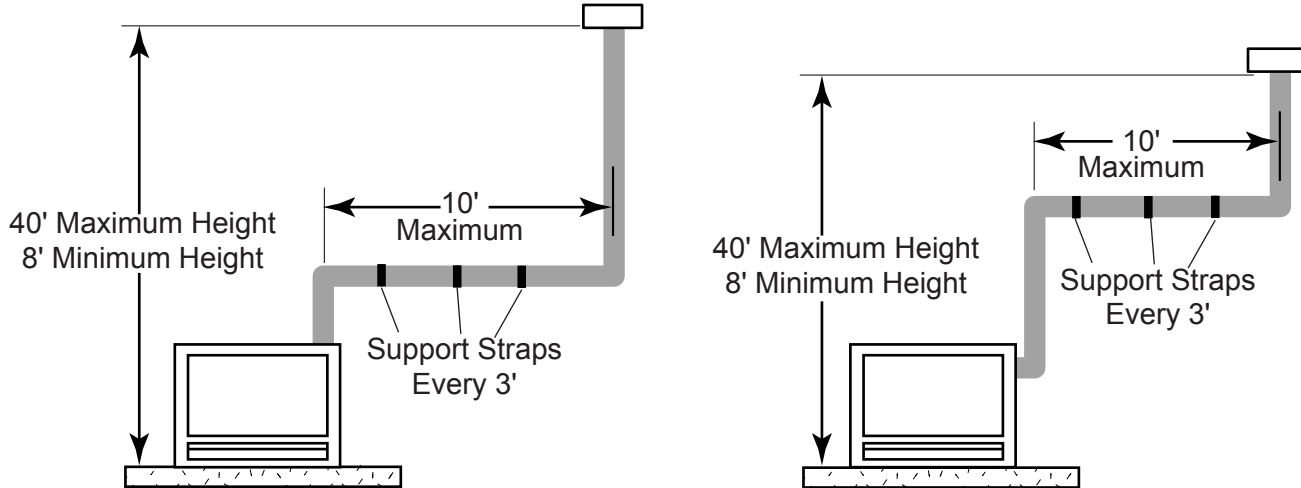

Figure 33 - Support Straps for Horizontal Runs
- Vertical installations up to 40' (12m) in height. Up to a 10' (3m) horizontal vent run can be installed within the vent system using a maximum of two 90° elbows. See Figure 33.